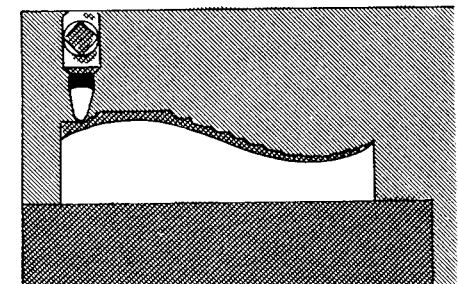

FIG. 511
15. Continue to take a series of cuts, starting at the right side of the work, and manipulating the tool and the work until the metal is cut to within $1/16$ " of the curved line (Fig. 511).
16. Move the work until the tool is in the position to cut the left-hand side of the contour (Fig. 511).